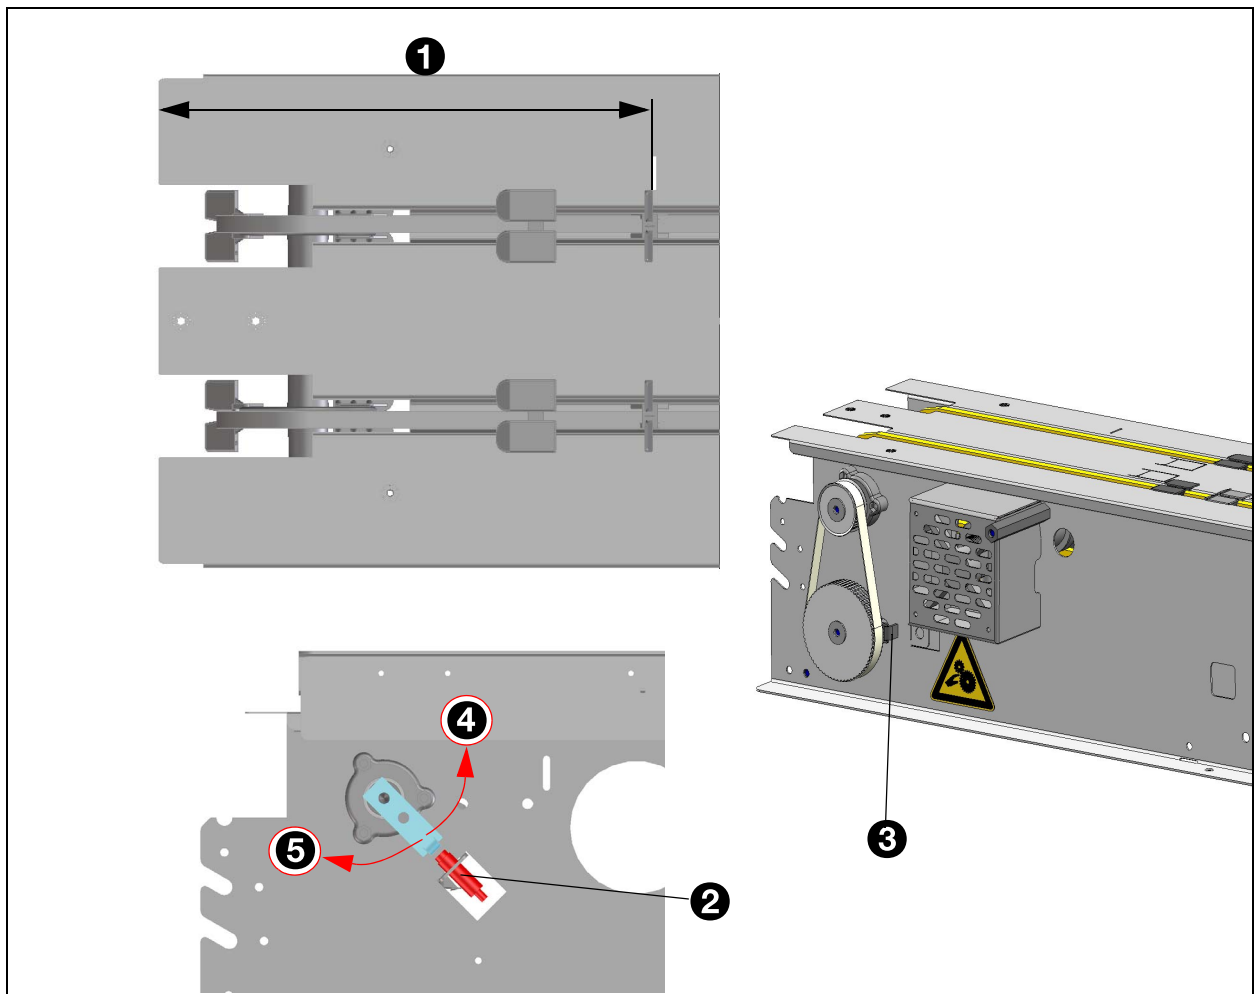

Fig. 180 - 0-position of the pusher chain
- 1 Turn the pusher chain by hand until the back of a pusher is in line with the indicator hole in the upper surface, see fig. 180. Check this setting using dimension (1) = 326 mm.
- When the indicator is adjust previously (4), the distance will be bigger than 326mm.
- When the indicator is adjust later (5), the distance will be smaller than 326mm.
- 2 Mount the indicator for the sensor (2) in this position, as shown in fig. 180. (This is on the outer side of the packing conveyor on the shaft of the front loop wheel).
*For big pack lane, mount the indicator for sensor (3) in position.*
- 5 Make a further adjustment if distance (1) is incorrect.